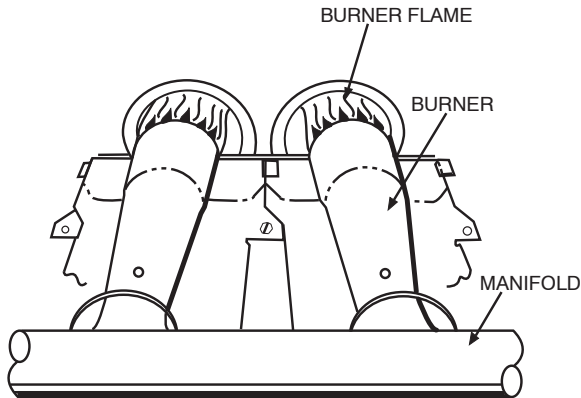

Fig. 9 - Monoport Burner
1. Inspection of all flue product passages-including the burners, heat exchanger, and flue collector box, Make sure the burner flames are blue in color and in proper adjustment. Refer to Fig. 9 for burner flame.